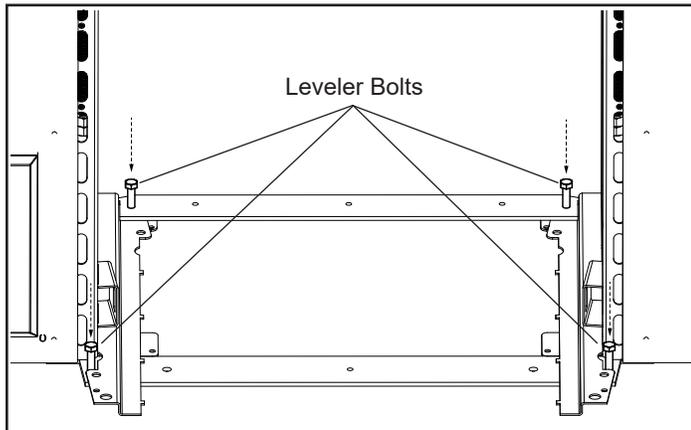

Figure 8.6
The stove is supplied with (4) 5/16-18 Hex Head bolts located in the hardware pack for leg levelers. These bolts should be threaded down through the holes to raise the frame corners as needed to make the frame level as needed, Figure 8.6.